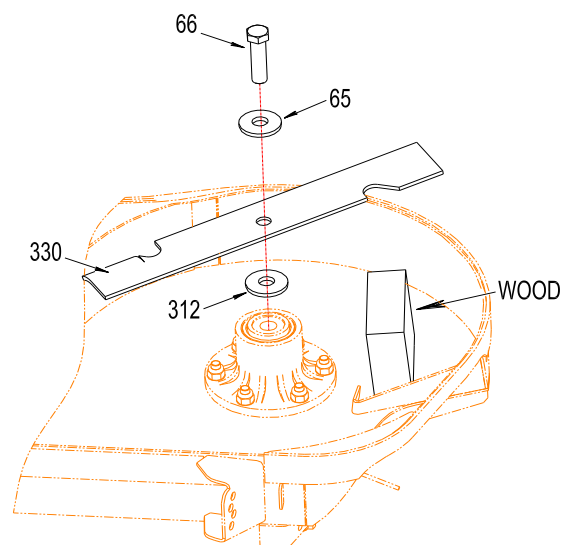

FIG 3
c) Install Part No. 330 (catcher blade). Add Part No. 312 and 65 (washers) as shown. Insert and tighten Part No. 66 (bolt). Torque bolt to 118+11ft-lb(160+15N-m). (FIG 3)